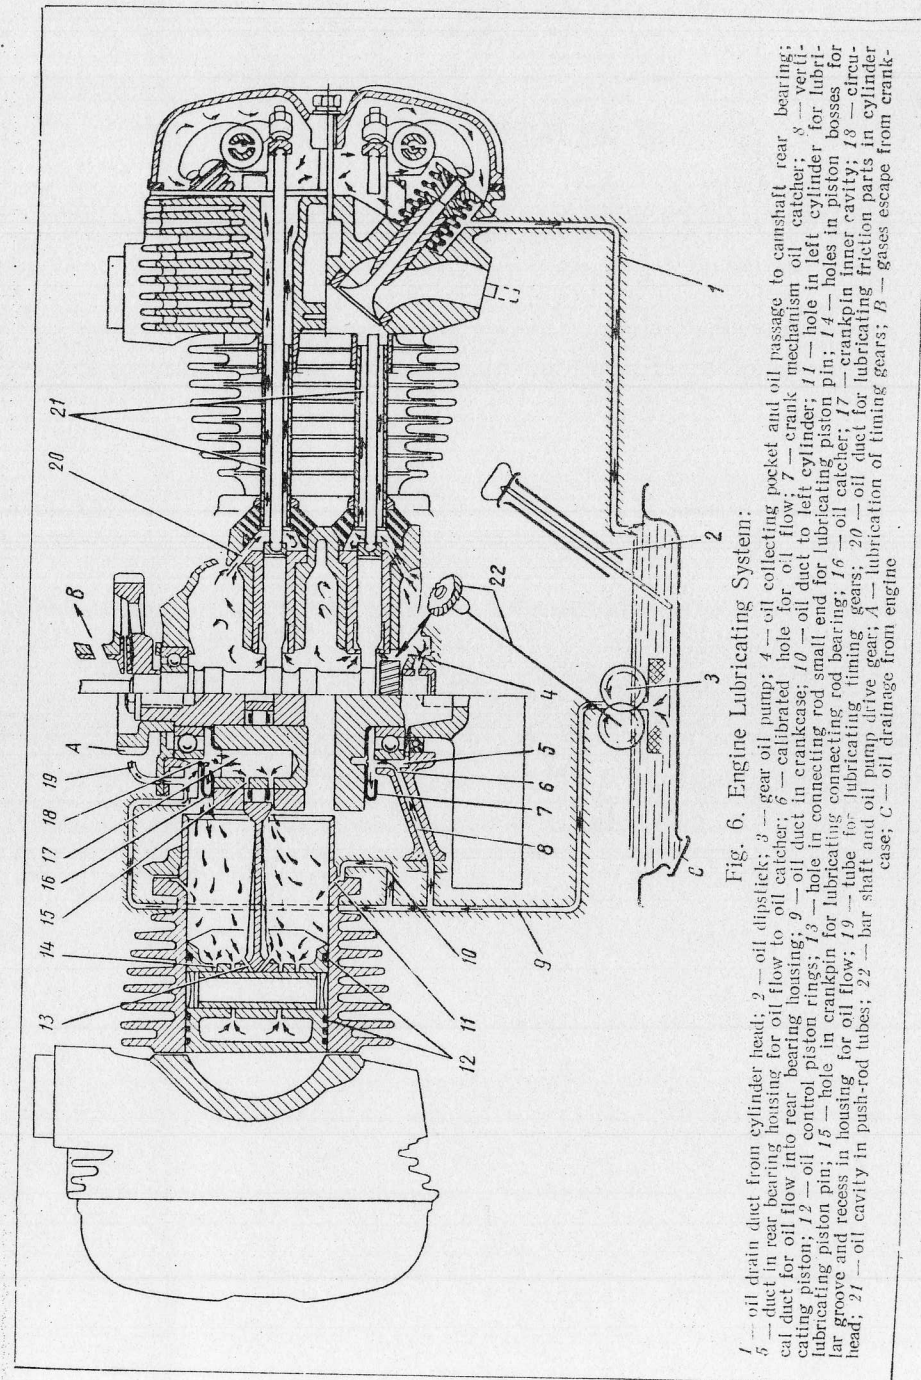
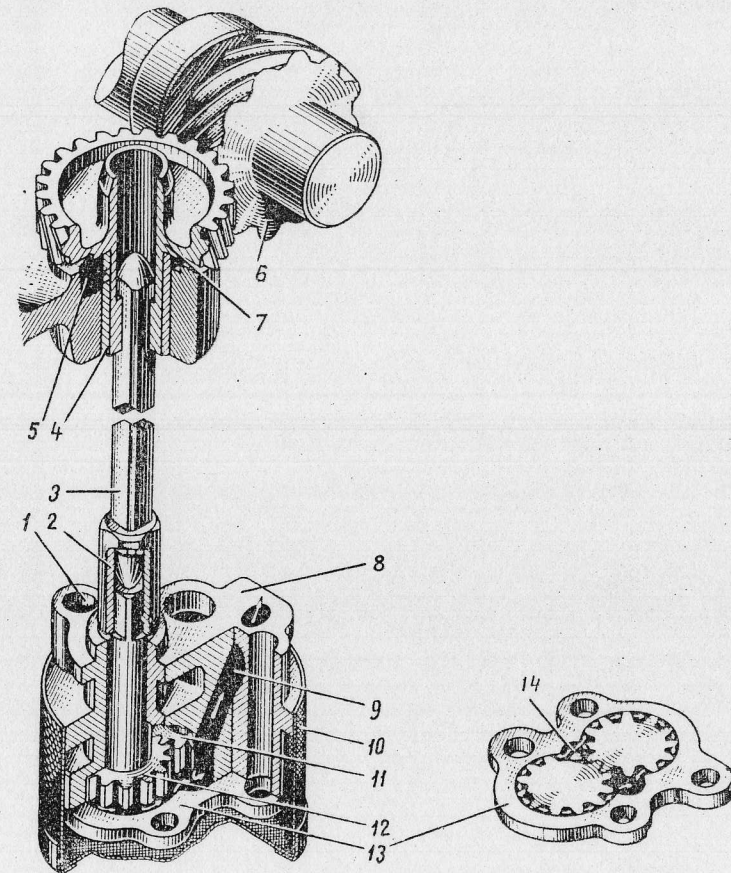

Fig. 6. Engine Lubricating System:
Fig. 7. Oil Pump:
Lubricating system is intended for lubricating the friction surfaces of mating parts in engine mechanisms and for cooling parts of the crank mechanism. The system is of a combined-type, where some parts are lubricated by forced-feed from the oil pump, while others — by splash lubrication (Fig. 6).
Single-section gear-type oil pump (Fig. 7) is driven from the engine camshaft through gear and bar shaft 22 (see Fig. 6 or Fig. 7, items 7 and 3).
The oil is primed into the engine crankcase through a hole on the left-hand side. The hole is closed with a plug furnished with a dipstick. From here the oil is delivered by the oil pump 3 (see Fig. 6) through a gauze filter along an inclined duct into vertical duct 8 and further to a horizontal pipe which is the main oil line in the system. From the main line oil is fed to two special oil catchers 7 on the crankshaft through ducts made in the crankcase front wall and in the rear bearing housing.